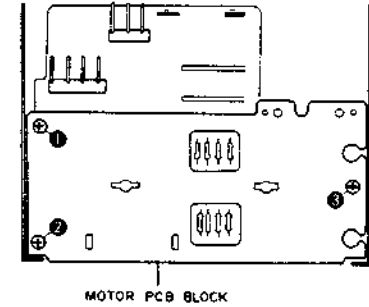

Fig. 3-10
- 2) Remove motor PCB block securing screws (J), (K) and (L) and take out the motor PCB block. (Refer to Fig. 3-10.)